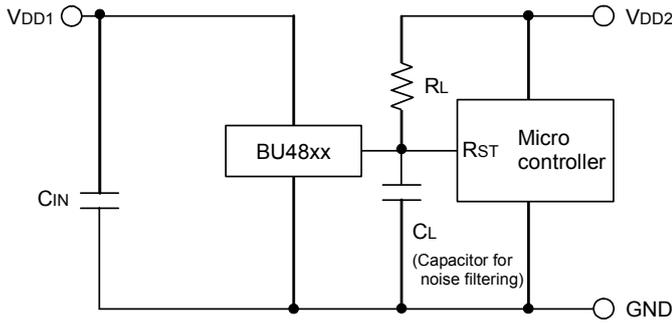

Fig.15 Open Drain Output type
CASE1: The power supply of the microcontroller (VDD2) differs from the power supply of the reset detection (VDD1). Use the Open Drain Output Type (BU48xx series). Attach a load resistance (RL) between the output and VDD2. (As shown Fig.15)